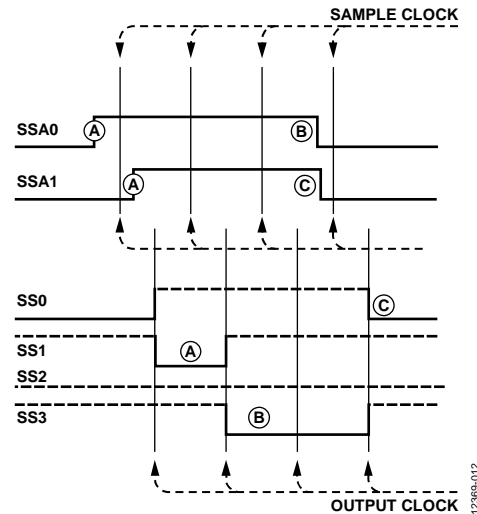

Figure 12. Mux Select Timing
Figure 12 illustrates the behavior of the SSA0 and SSA1 channels. This diagram assumes that \overline{MSS} is low and that SS0, SS1, SS2, and SS3 are pulled up.
The following details the mux select timing shown in Figure 12:
- Point C: This point in Figure 12 shows a clean transfer between SS3 being active and SS0 being active. The mux was designed to eliminate any short duration metastable states between any two selected outputs.